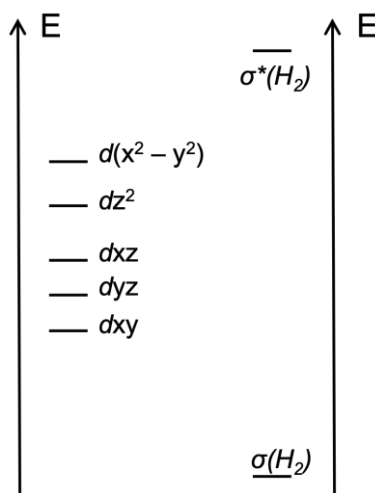

Figure 1: Simplified diagram of molecular orbitals of the Kubas complex
10. **Fill in** the diagram in figure 1 with electrons.